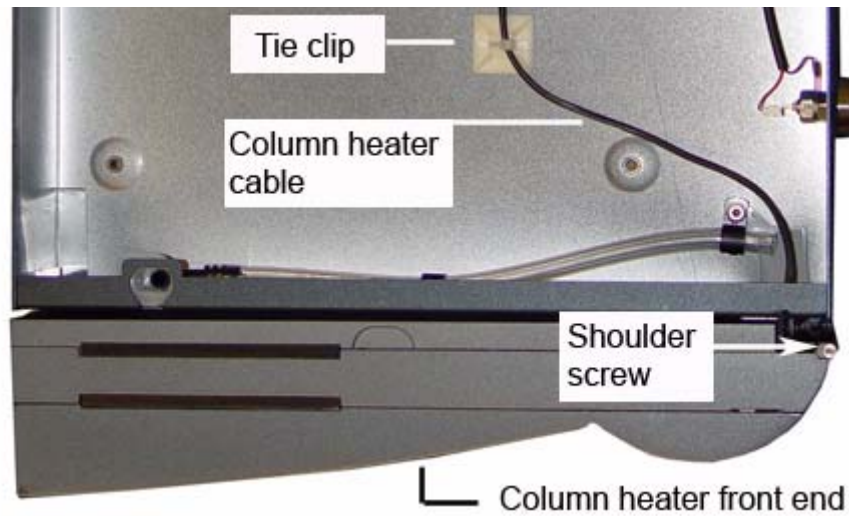

Figure 6 - Removing the Shoulder Screws
- Using the 2-mm hex screwdriver, remove the two shoulder screws on the top and bottom of the hinge located on the right side of the column heater front end (Figure 6).